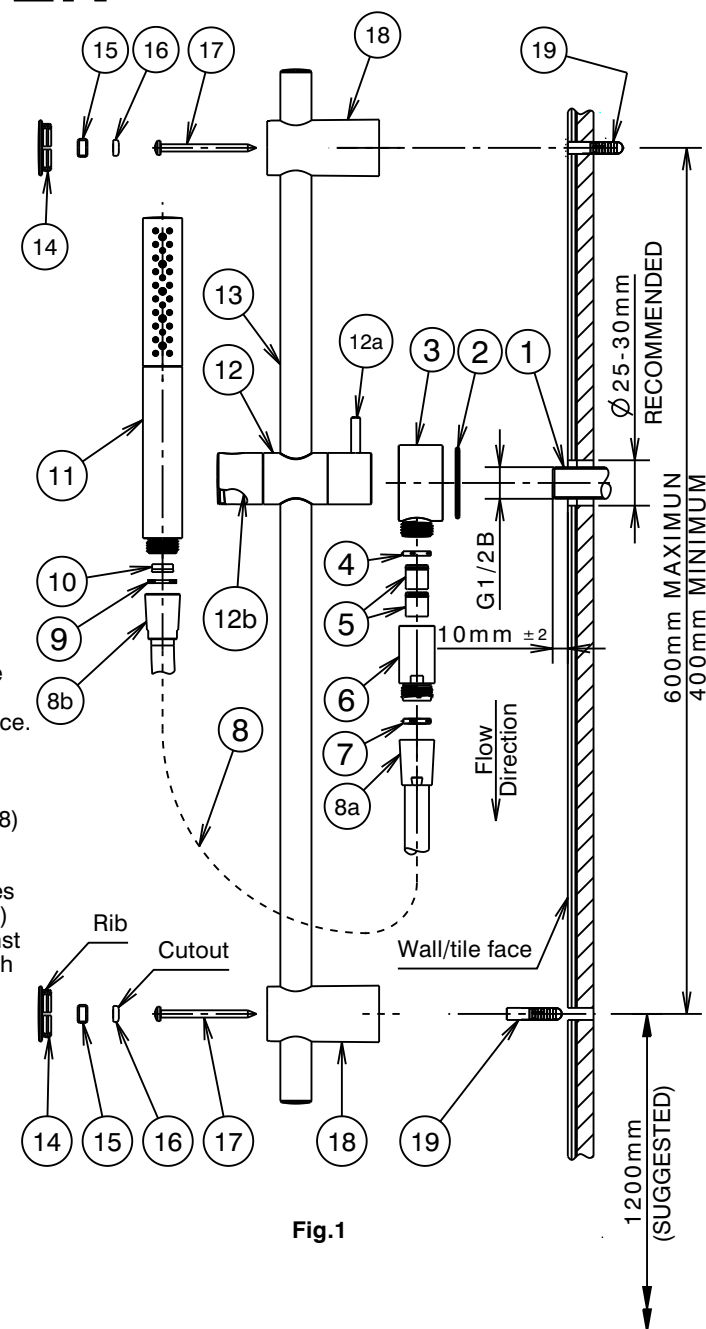

Fig.1
- 5) Pass one screw (17) through hole in one rail base (18) before inserting screw into top wall plug (19) and tighten screw (17) until rail base (18) is mounted securely against the wall/tile face. Slide rail (13) into hole in top rail base until it is higher than the bottom wall plug (19). Pass the other screw (17) through hole in the other rail base (18) before inserting screw into bottom wall plug (19) and tighten screw (17) until rail base (18) is mounted securely against the wall/tile face. Slide down rail (13) into hole in bottom rail base (18) to suitable position as shown in **Fig. 1**. Fit washers (16) with cutout side into holes in rail base (18) until they contact rail surface. Screw nuts (15) into rail base (18) and tighten until washers (16) firmly against rail surface. DO NOT OVERTIGHTEN. Align rib in cap (14) with cutout in rail base (18) and fit caps (14) into rail bases (18).
- 6) Ensure the check valves (5) and strainer (4) are fitted into housing (6), check that rubber washer (7) is installed into the shorter conical fitting (8a) of shower hose (8) then screw onto thread end of check valve housing (6) and tighten. Ensure washer (9) is fitted into the longer conical end (8b) of shower hose (8), then screw onto handshower (11) and tighten. Fit handshower (11) into holder (12b).